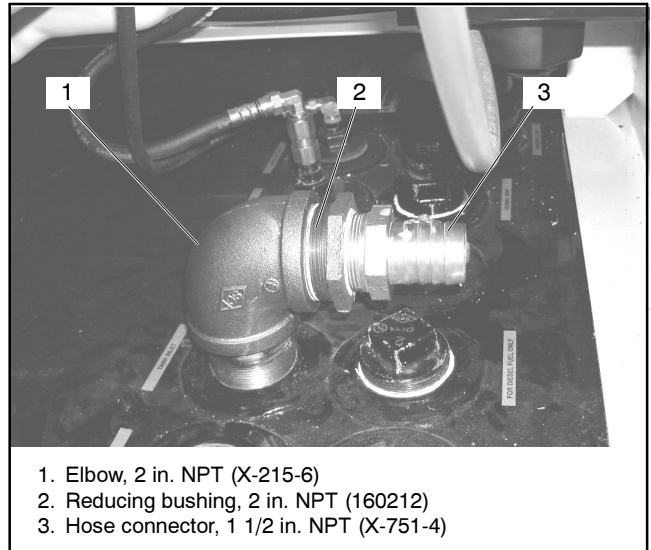

Figure 9 Secure Subassembly of 2 in. NPT Elbow
- 2.1.9 Attach subassembly to 2 in. NPT elbow X-215-6 and tighten securely. See Figure 9.